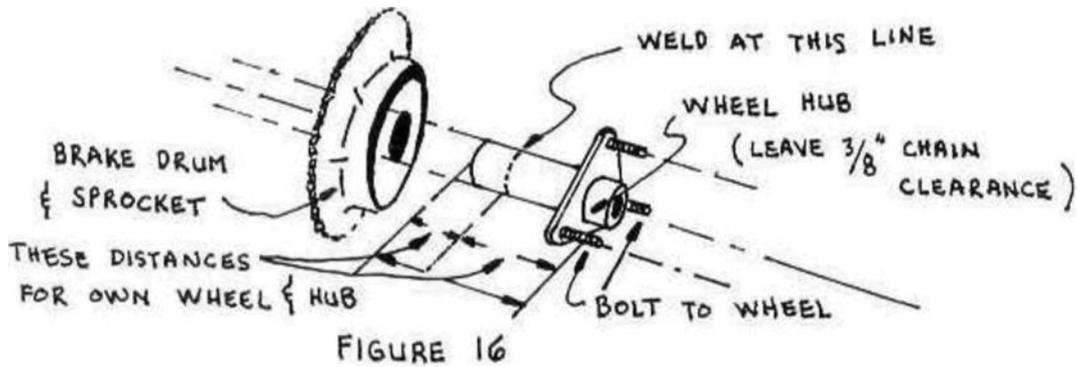

FIGURE 16
12. Weld the brake drum and sprocket assembly to the hub of the rear wheel as shown in Figure 16 below. Before welding check to make sure that you have $\frac{3}{8}$ " clearance between the sprocket and the tire. Bolt the hub to the rear wheel.